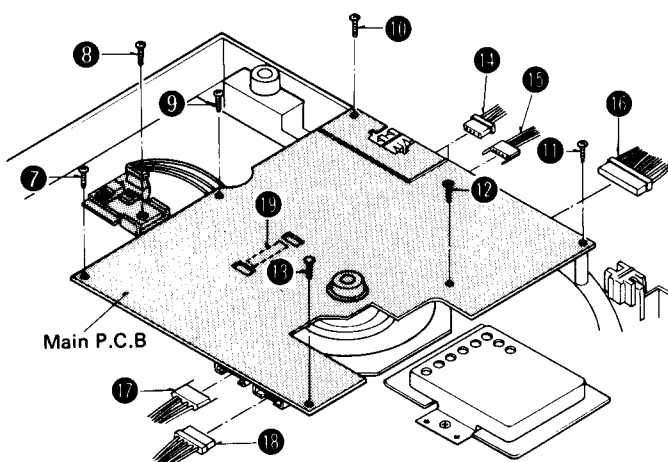

Fig. 3
Remove the main P.C.B. setscrews ⑦ ~ ⑩ and connectors ⑪ ~ ⑮. Then the main P.C.B. can be removed. (See Fig. 3)
*When installing the main P.C.B. onto the main body, make sure that the connector ⑮ (CN102) is engaged with the stator frame pin. (Fig. 3)